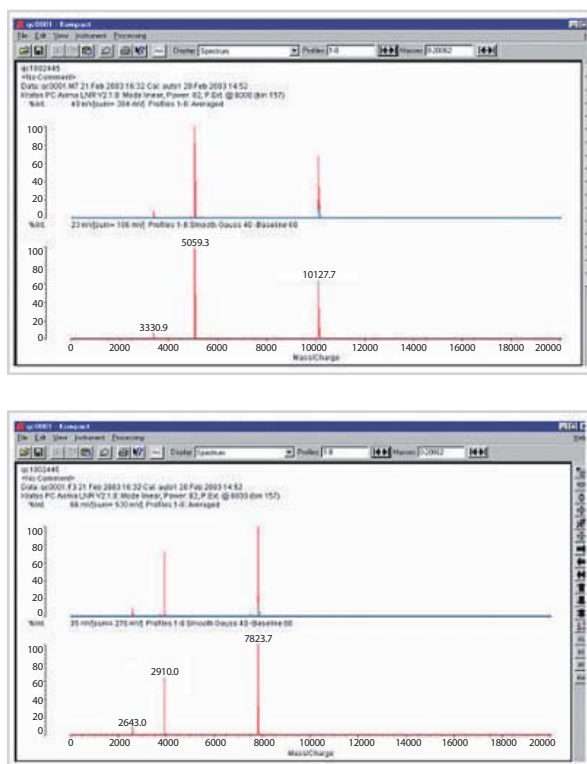

Figure 2. Examples of a typical 30 mer and 23 mer oligo spectrum, in this case employing a Kratos MALDI-TOF system.
Tab 3. and Fig. 2. EBQ more efficiently quenched FAM dye compared to BHQ1
2) Quenching efficiency measurement through  $\Delta R_n$  measurement (Figure 2.)